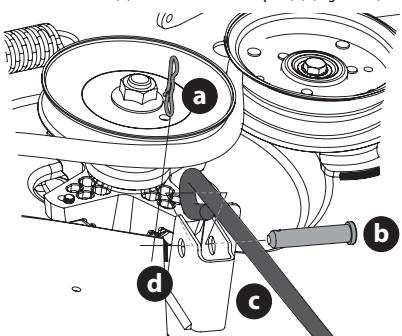

Figure 41
- b. Remove the third bow-tie pin (a) from the clevis pin (b) that secures the front deck control rod (c) to the front deck lift bracket (d). Remove the clevis pin (b) (Figure 41).